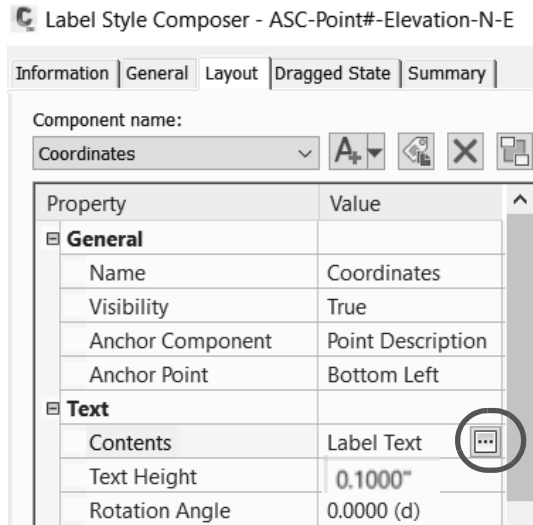

Figure 2–36
10. Click  in the *Contents* cell, next to *Label Text*, as shown in Figure 2–36.